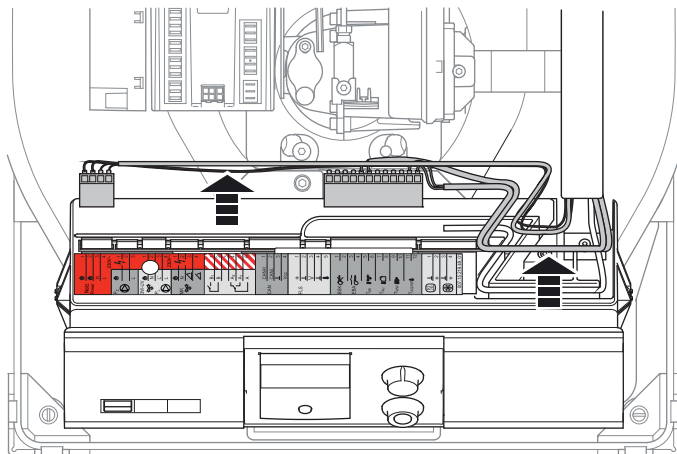

Fig. 6-5 Pull out the cable
6. Pull out the sensor and the connection cables from the cable ducts of the control panel (fig. 6-5).